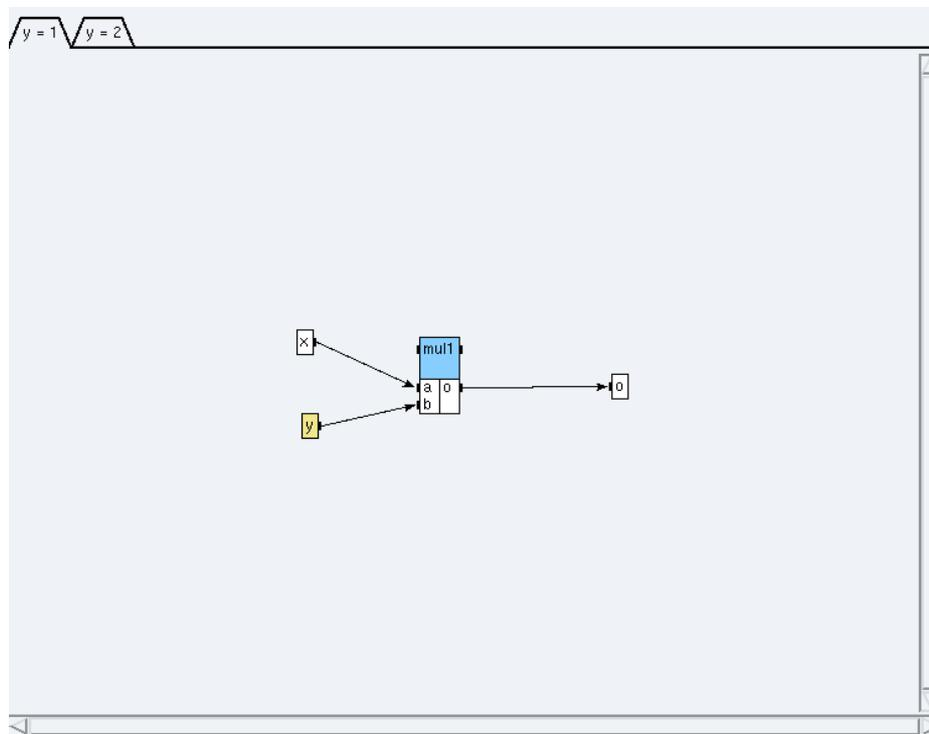

Figure 5.7: Condition `y=1`
- click on the condition `y=1` (cf. figure 5.7) and create the function `mul1` of the definition **Arit_mul** from int library,